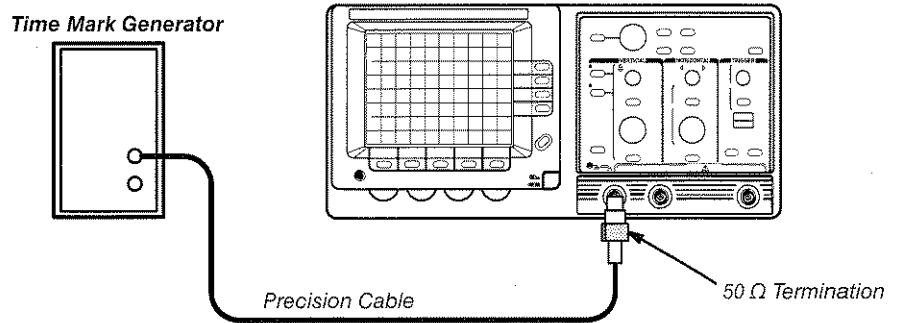

Figure 6-11: Dual Delay Test Setup
**Equipment Required:** One time marker generator (item 9), one precision coaxial cable (item 5), and one 50 Ω termination (item 3).
2. Connect the output of the time marker generator to the **CH 1** input as shown in Figure 6-11.